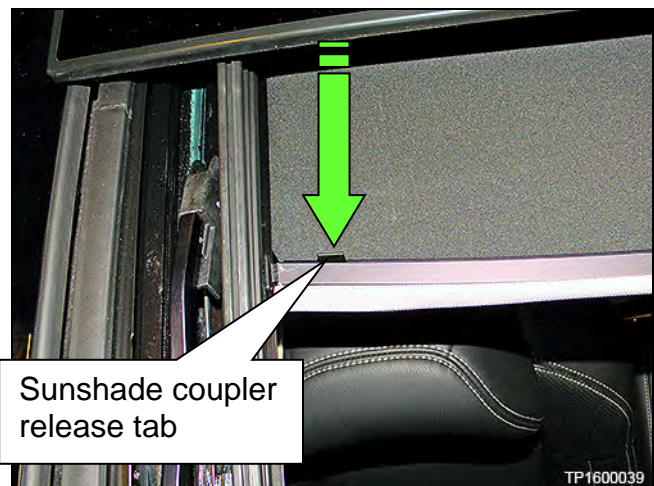
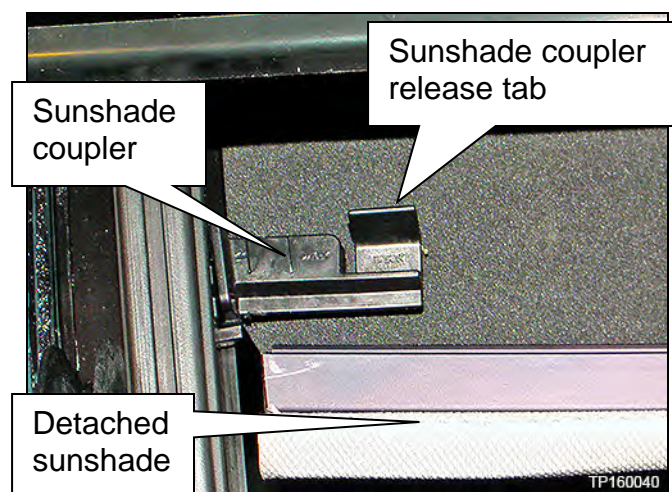

Figure 67
Figure 68
- Figure 67 and Figure 68 show the right side of the front sunshade.
8. Detach the sunshade from the sunshade coupler by pressing the coupler release tab (Figure 68).
- Figure 68 shows the sunshade coupler detached.